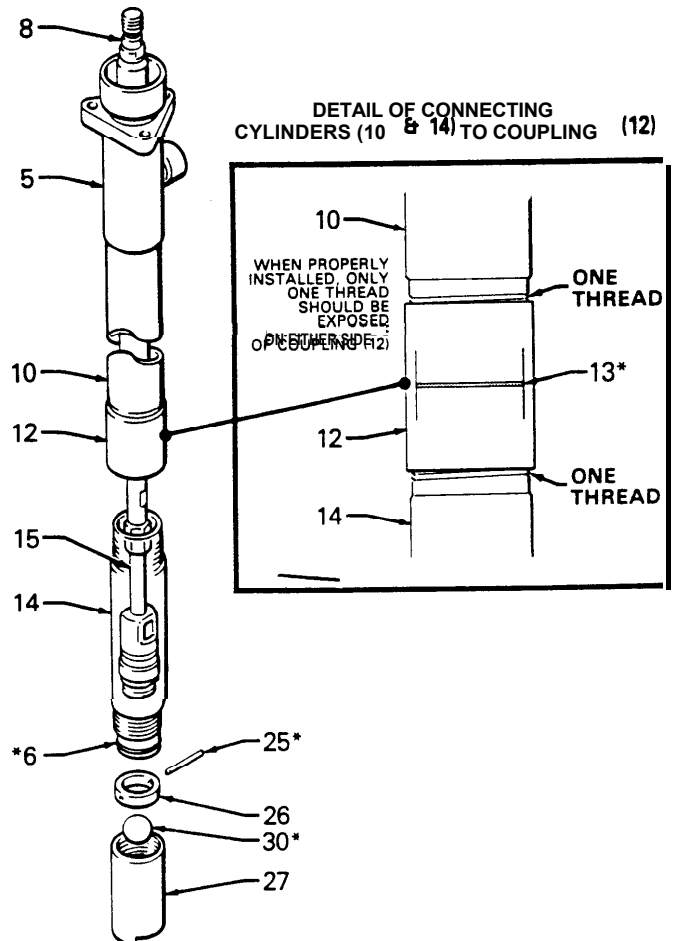

Fig 3
17. Place a piece of wood, such as 2x4, on the floor. Place the o-ring end of the lower cylinder (14) on the wood. Guide the piston and rod assembly into the cylinder, being very careful not to shear the edges of the packings. Lightly tap the top of the rod (8) with a plastic mallet until the hex of the piston rod is just visible beyond the top of the cylinder. See Fig 3.